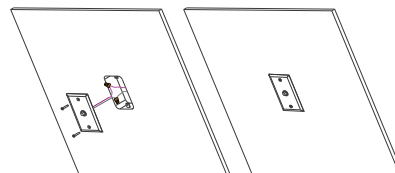

Figure 2-2
3. Fix the plate on the junction box with 2 screws (Figure 2-2).